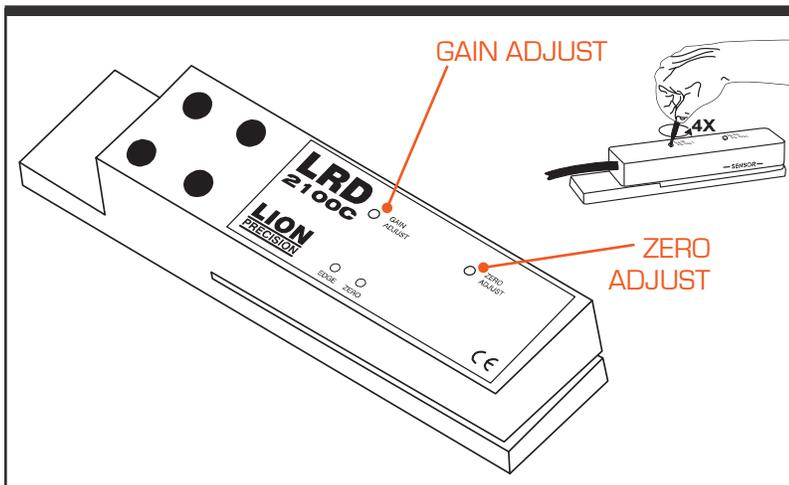

Figure 4-11. Lion LRD 2100C Retroreflective Mode Alignment
Step 2. Gain Adjust. Center "GAIN ADJUST" (see Figure 4-11) - Turn GAIN ADJUST four (4) turns counter-clockwise, then turn GAIN ADJUST two (2) turns clockwise.